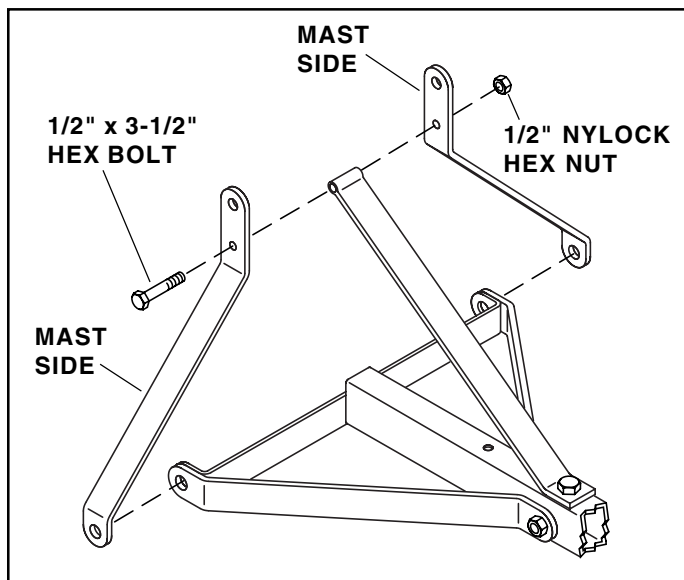

FIGURE 5
- Attach two mast sides to the mast support using a 1/2" x 3-1/2" hex bolt and 1/2" Nylock hex nut. Use the end of the mast side with two holes, inserting the hex bolt through the smaller hole. **Do not tighten yet.** See figure 5.